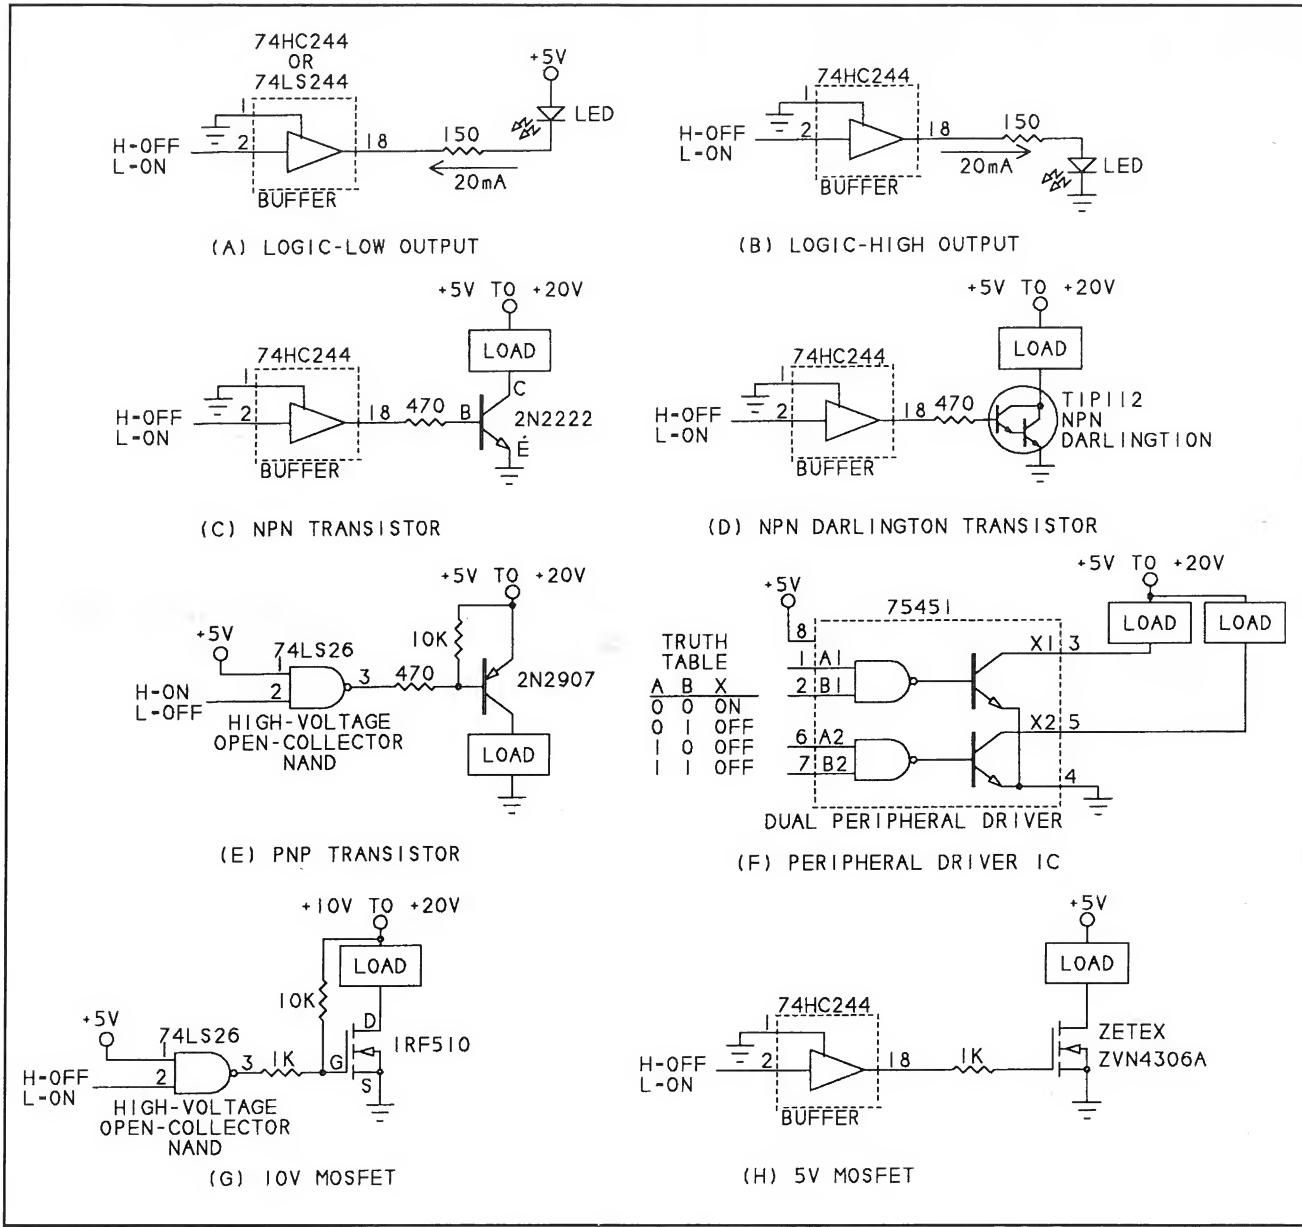

Fig. 3. Eight simple circuits for using a logic output to switch power to a load.
ohms.) If you want 20 mA, a better choice would be a buffer like the 74HC244 that has an absolute maximum output of 35 mA per pin. Illustrations (A) and (B) in Fig. 3 show examples.
Shown in Fig. 3(C) is a circuit that uses a commonly available 2N2222 general-purpose npn transistor. A logic high at the control output biases the transistor into its on condition. A small current flows from base to emitter, and the resulting low collector-to-emitter resistance permits current to flow from the power supply through the load and switch to ground.
For large load currents, you can use a Darlington pair, as illustrated in Fig. 3(D). One transistor in the pair provides the base current to drive a second transistor. Because total current gain equals the gain of the first times the gain of the second, gains of 1,000 are typical for Darlington pairs.
All the above circuits use npn transistors and require source current from a logic-high output to switch on. If you want to turn on a load with a logic-low output, you can use a pnp transistor, as illustrated in Fig. 3(E). In this circuit, a logic-low output biases the transistor on, and a voltage equal to the power supply potential switches it off.
Another handy way to control a load with logic is to use a peripheral-driver chip like those in the 7545X series and illustrated in Fig. 3(F). Each chip in the series contains two independent logic gates, with the output of each gate controlling a transistor switch.
An alternative to the bipolar transistor is the MOSFET. The most popular type is an enhancement-mode n-channel type in which application of a positive voltage to the gate switches on the device, creating a low-resistance channel from drain to source. An example of such a design is illustrated in Fig. 3(G).
One way to provide the gate voltage from 5-volt logic is to use a device with an open-collector or open-drain output with a pull-up resistor to at least 10 volts, as illustrated in Fig. 3(G). Alternatively, you can look for a device with a low minimum on voltage. Zetex's ZVN4603A can switch 1.5 amperes with just +5 volts applied to the gate, as illustrated in Fig. 3(H).